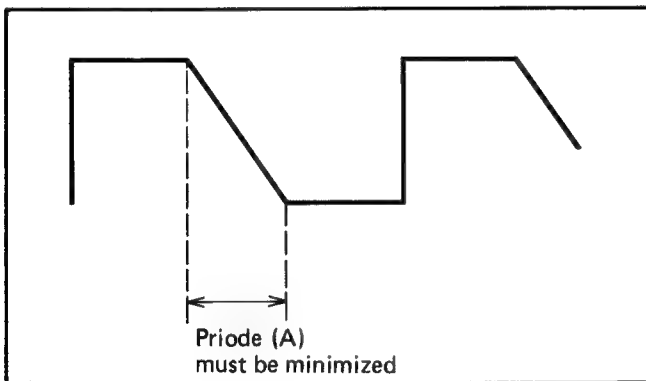

Fig. 12 The waveform of HIC6552 Pin 32
6. Adjust the SPD horizontal position adjustment screw so that the priode (A) on the waveform is minimized as shown in Fig. 12.